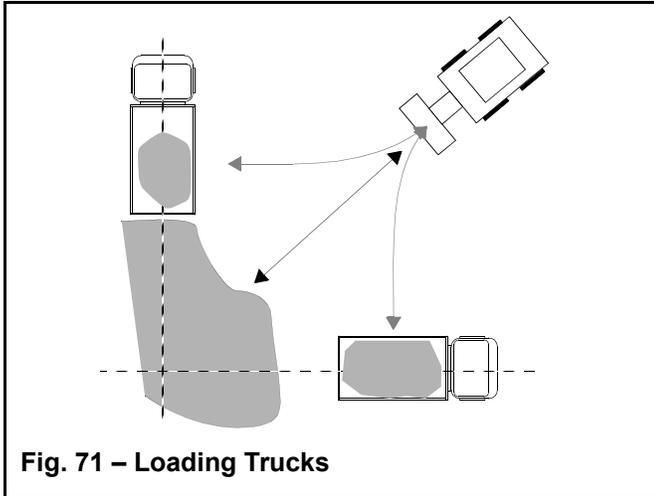

Fig. 71 – Loading Trucks
- The truck and machine working direction should form an angle of 45°. (Fig 71).